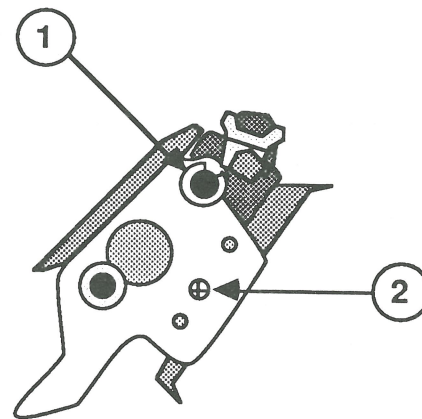

FIGURE 12
2. Using the grip-ring pliers or the flatblade screwdriver, remove the E-ring securing the right tractor frame to the upper tractor shaft (Figure 12, #1).
3. Remove the Phillips screw securing the right tractor frame to the paper pan (Figure 12, #2).